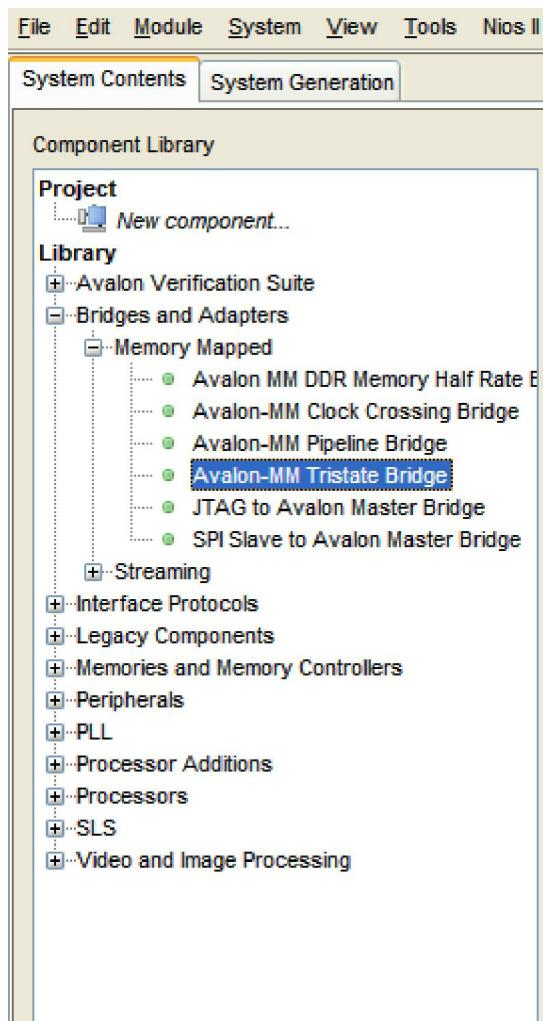
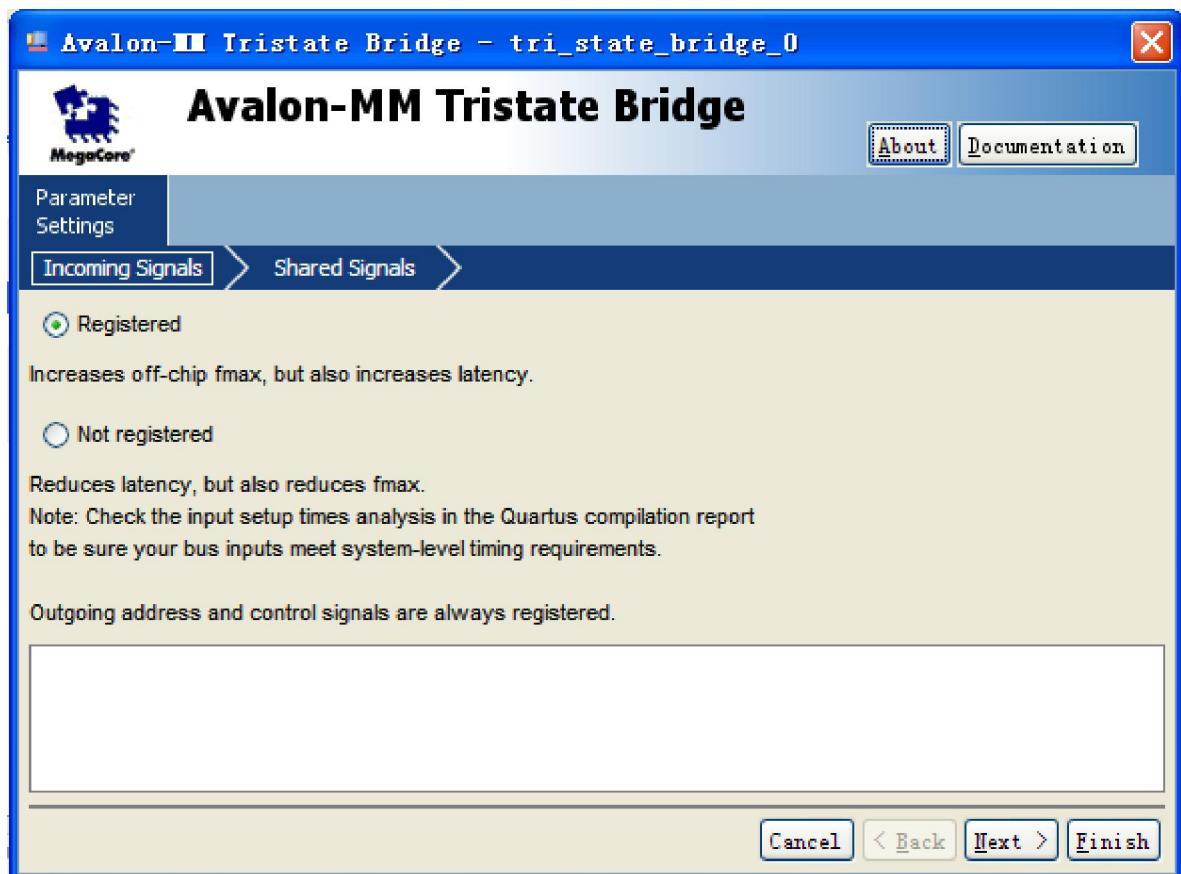

Figure 3-1 Avalon-MM Tristate Bridge
Figure 3-2 Avalon-MM Tristate Bridge Box
1. Choose **Library > Bridges and Adapters > Memory Mapped >Avalon-MM Tristate Bridge** to open the Avalon-MM Tristate Bridge wizard. See Figure 3-1 and Figure 3-2.